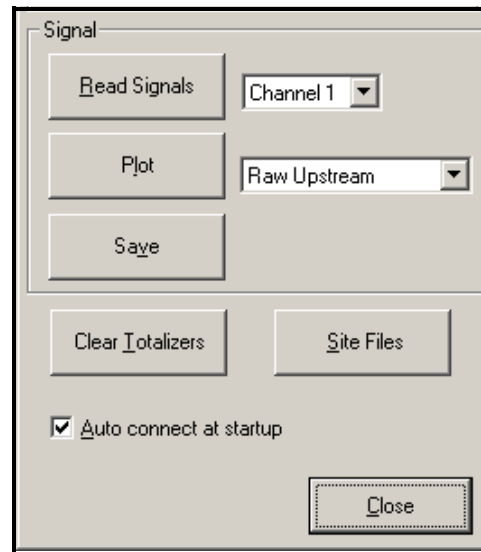

Figure 2-6: Active Signal Options
3. To read a signal from the meter, click on the [Read Signals] button. (If the meter is a multi-channel instrument, open the Channel drop-down menu and click on the desired channel.) After a moment, the *Properties* window appears similar to Figure 2-6 below.